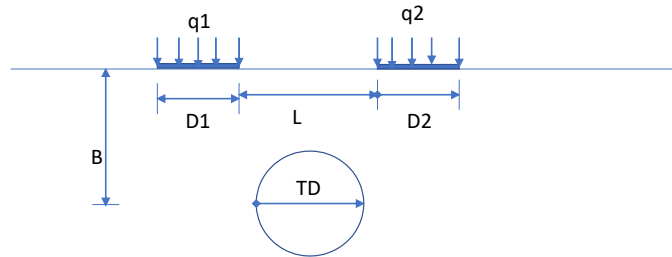

Figure 2: Configuration of tunnel construction (Option for one tunnel)
PART (A): Based on your design, use the software, PLAXIS 2D to carry out numerical simulation (referring to Figure 2). Discuss the results and compare both options.